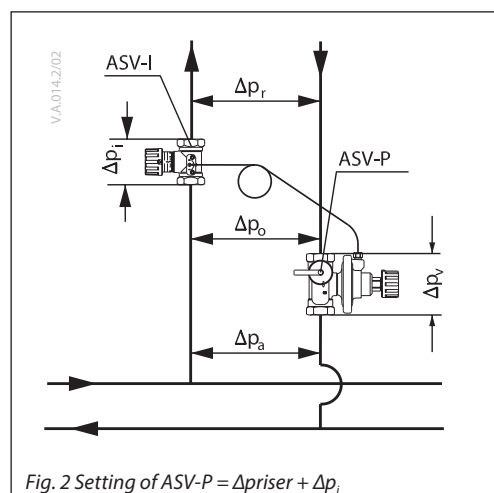

Fig. 2 Setting of ASV-P = $\Delta p_{riser} + \Delta p_v$
- partner valve inside control loop (Fig. 2). Offers flow limitation on the riser however part of the controlled pressure range is used by pressure drop on partner valve (Δp_v). It is recommended when flow limitation on each terminal units is not possible.